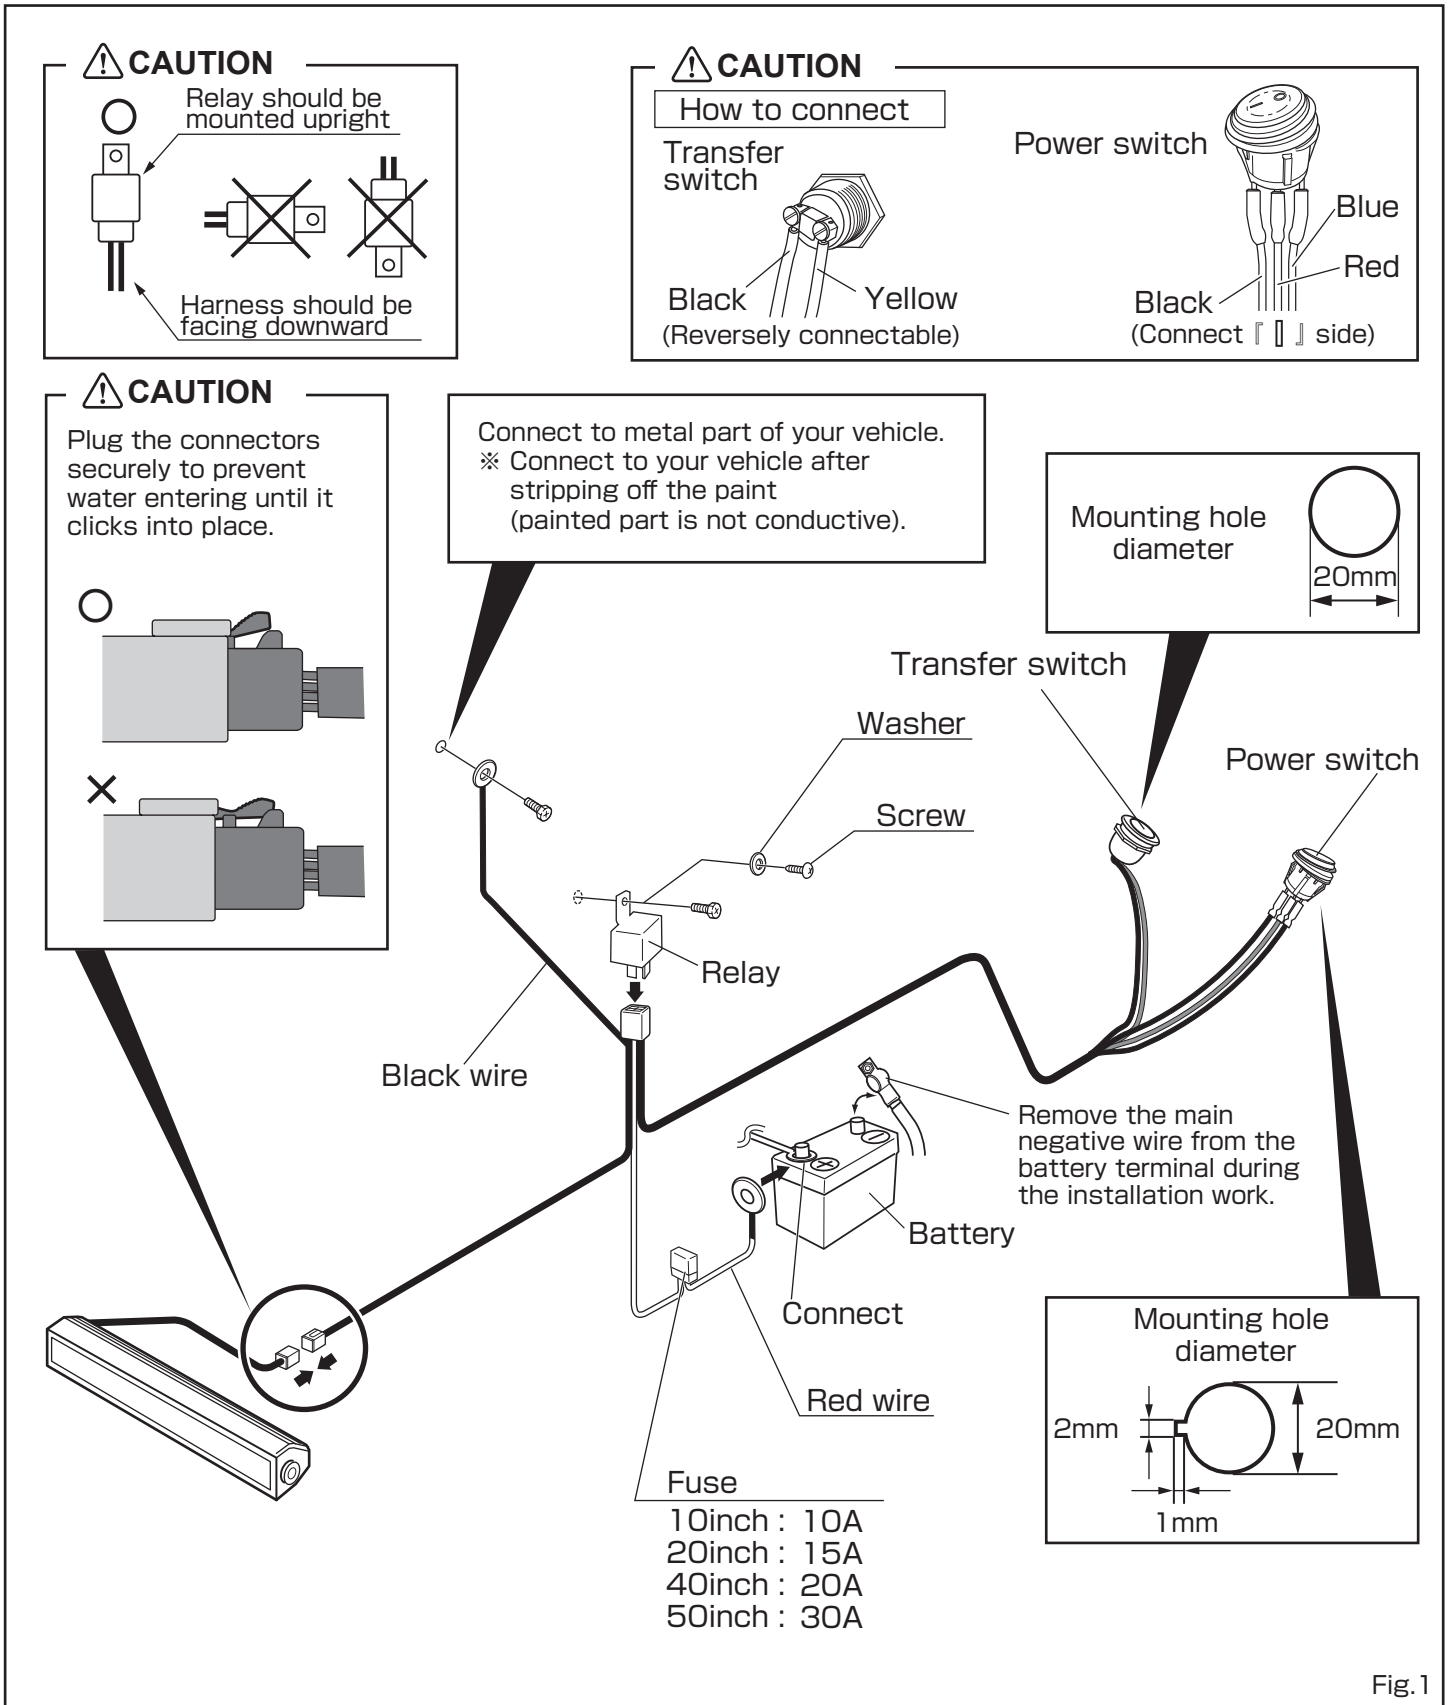

Fig.1
1. Connect each component part as shown in the Fig. 1. Remove the wires from the switch if the switch harness passes through into the vehicle. Reconnect the wires to the switch. Refer to **How to connect** in the Fig. 1.
1. Remove downside tabs (Fig.1) from your lamp and backside lower tabs (Fig.3) from the guard pipe.